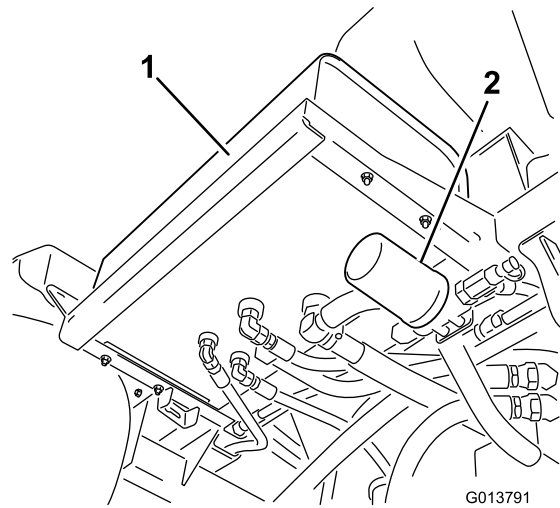
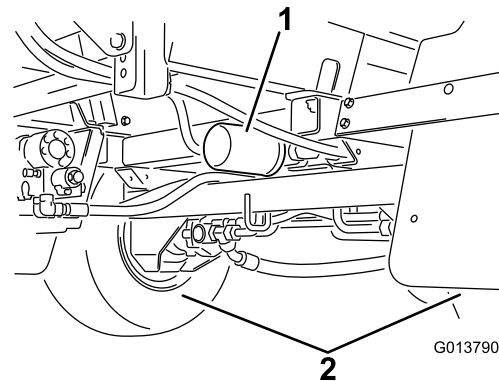

Figure 92
Figure 93
2. Locate the 2 hydraulic filters on the machine (Figure 92 and Figure 93).